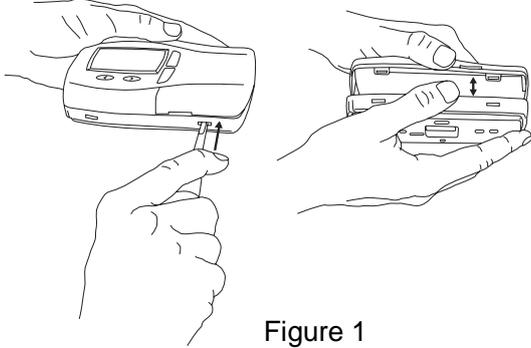
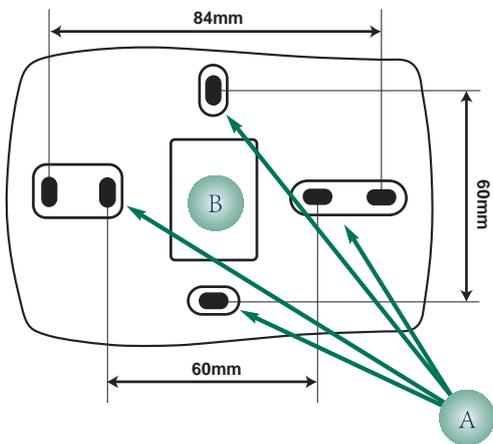

Figure 1
Figure 3
tool (see figure 1). After having removed the front the panel, make 2 holes with diameter 4 mm on the wall to which the device is to be fixed, at the required distance (see figure 3 point A).
- JST 3-way connector for connection with ST542 present inside the front panel and accessed by removing the cover (using a screwdriver or similar tool) as illustrated in figure 1.
The cables must pass through the hole in the center of the rear (figure 3 point B)